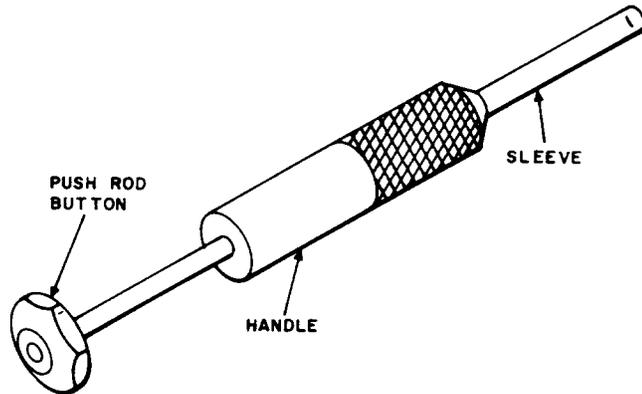

Fig. 2—Pin and Socket Extraction Tool
1—Part No. 305183, Pin and Socket Extraction Tool (Fig. 2)*
- 1—Part No. 305183, Pin and Socket Extraction Tool (Fig. 2)*